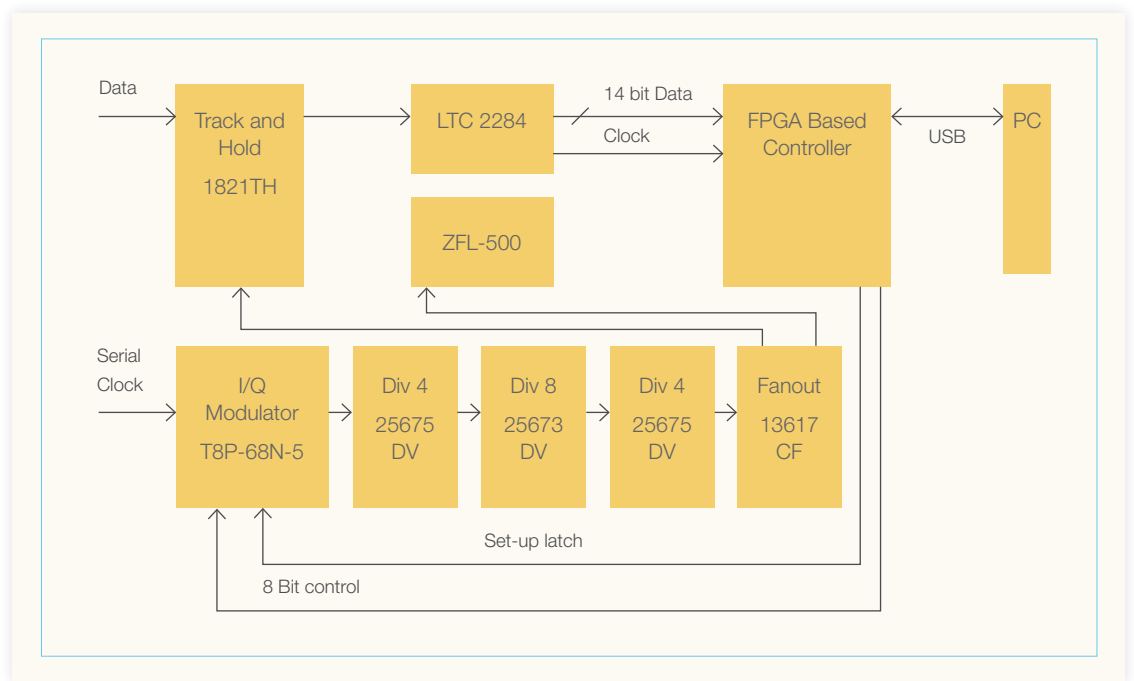

Fig 6.1 Lab demo set-up block diagram
6.1: Demo Set-up and Measurement Results: Fig 6.1 shows the block diagram of the lab demo set-up.